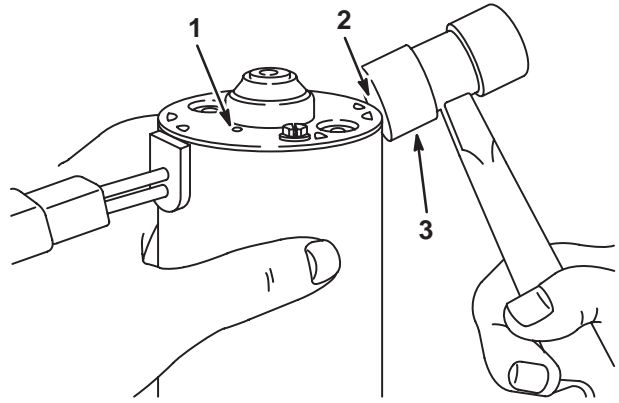

Fig. 103 – Aligning End Cap Bearing
17. Tap end cap edge lightly using a soft hammer to align bearings, Fig. 103.